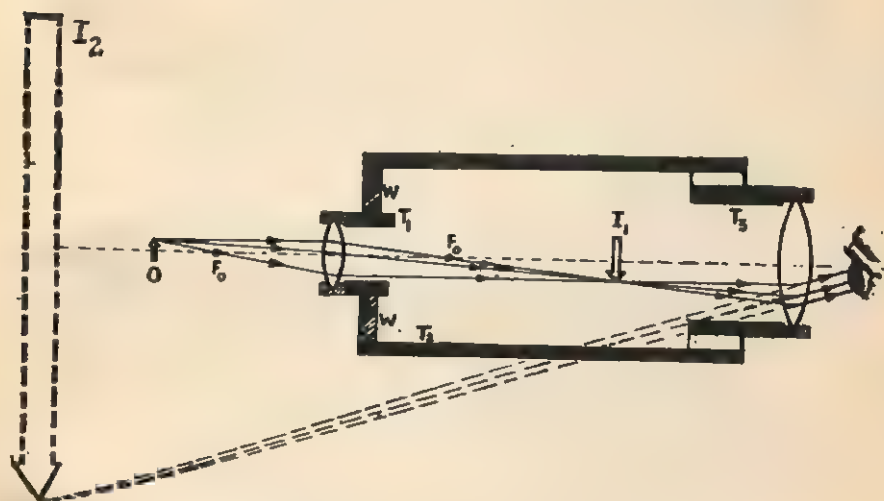

Fig. 11.22. Demonstration model of a compound microscope.
ment as shown in Fig. 11.22 can be fitted), wooden ring  $W, W$ , for the proper fitting of the objective and proper tools for the fitting.
- (ii) Fix the objective tube assembly,  $T_1$ , to one end of the tube  $T_2$  with the help of wooden ring  $W$  as shown in Fig. 11.22.